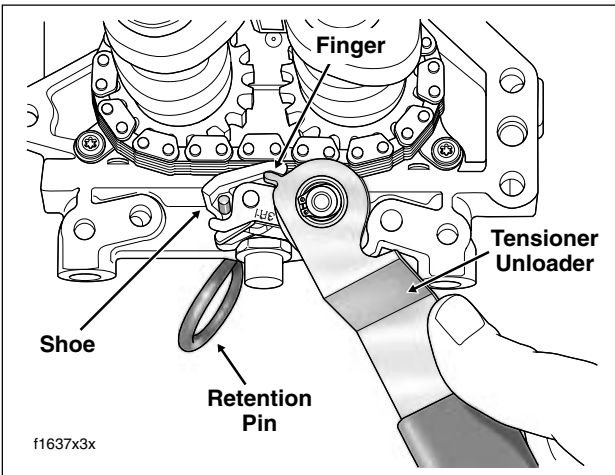

Figure 3-107. Retract Secondary Cam Chain Tensioner
1. Place cup of CAM CHAIN TENSIONER UNLOADER (HD-42313) over spring coil of secondary cam chain tensioner positioning finger on tool between tensioner and shoe. See Figure 3-107. Rotate tool in a counterclockwise direction inserting retention pin through hole in boss on **primary cam chain side** of cam support plate. Pin engages hooks on tensioner to hold it in the retracted position. For best results, place cam support plate in a vise using brass jaw inserts to prevent casting damage.